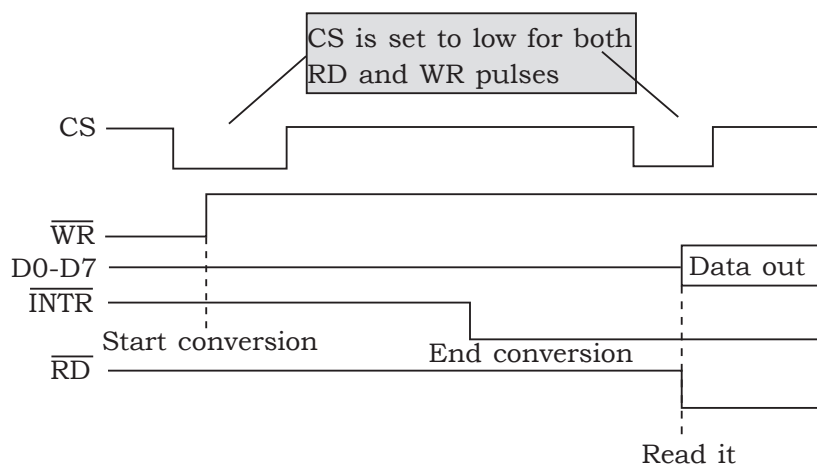

Fig. 5.2.3: Read and Write Timing for ADC0804
3. After the INTR has become low, we make CS=0 and send a high-to-low pulse to the RD pin to get the data out of the ADC0804 IC chip. The timing diagram for this process is shown in figure. 5.2.3